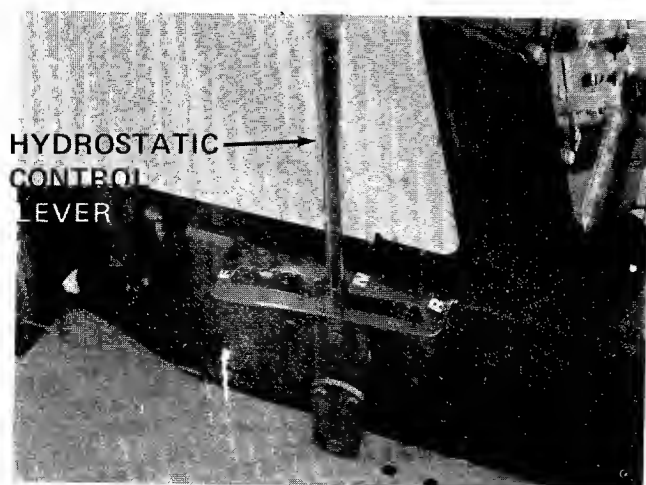

FIGURE 7.
A single control lever connected to the hydrostatic transmission controls both the speed and direction of the tractor. Infinite speed control is achieved by moving the control lever forward or backward. The farther forward or backward you move the control lever the faster you will travel. Pulling the control lever into neutral (N) area will stop the tractor. To increase rear wheel torque (pulling power) move the control lever towards neutral (N) position. The lawn tractor responds similar to shifting to a lower gear with a gear type transmission. See figure 7.